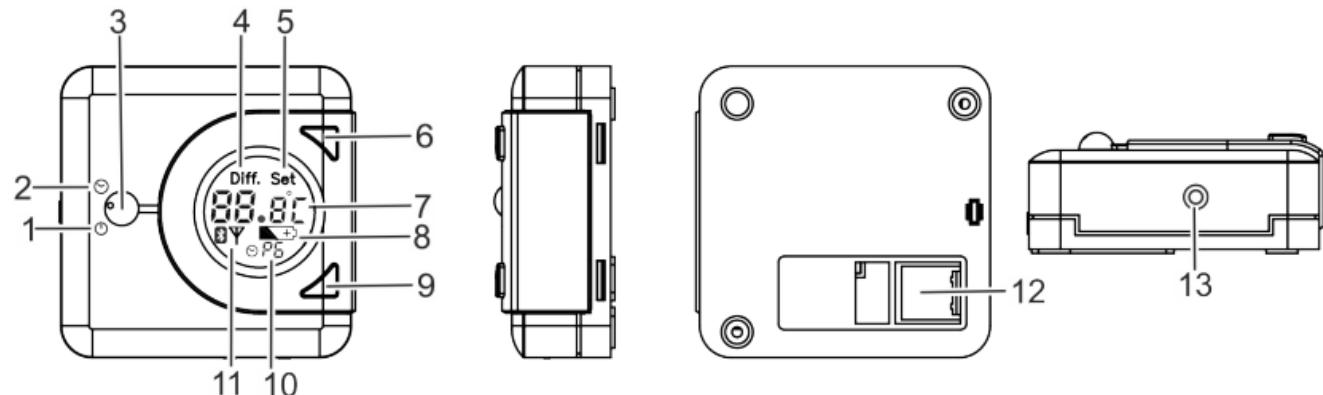

Fig. 1: Vue d'ensemble du thermio™ essential smart
1. To activate the key lock, press the toggle key (Fig. 1/3) down while simultaneously pressing the top button (Fig. 1/6).
1. Press the toggle key (Fig. 1/3) down to put the device in stand-by mode.